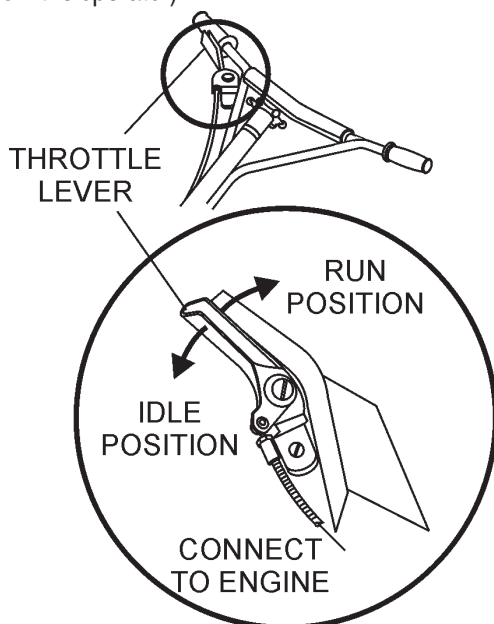

Figure 6. Throttle
1. Set the **throttle** (Figure 6) to the idle position (lever away from the operator).